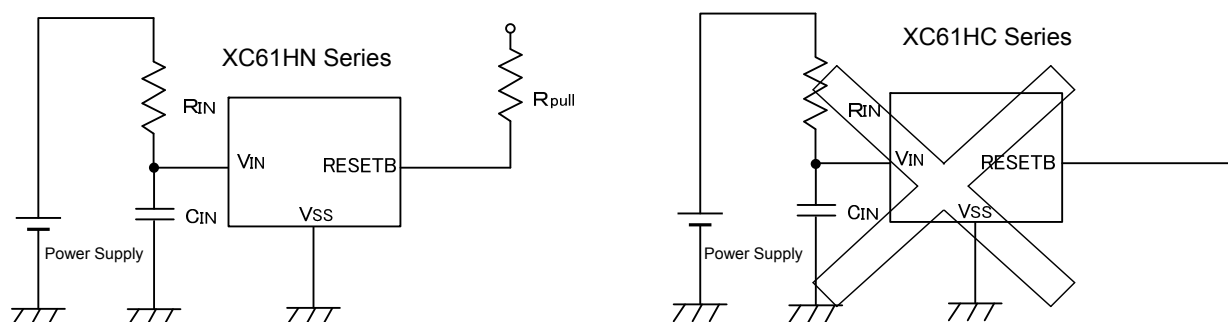

Figure 1 Use of input resistor R_{IN}
2. When a resistor is connected between the V_{IN} pin and the power supply with CMOS output configurations, irregular oscillation may occur as a result of voltage drops at R_{IN} if load current (I_{OUT}) exists. It is therefore recommend that no resistor be added. (refer to Figure 1 below)
4. If a resistor (R_{IN}) must be used, then please use with as small a level of input impedance as possible in order to control the occurrences of oscillation as described above. Further, please ensure that R_{IN} is less than $10k\Omega$ and that C_{IN} is more than $0.1\mu F$, please test with the actual device. However, N-ch open drain output only. (Figure 1).